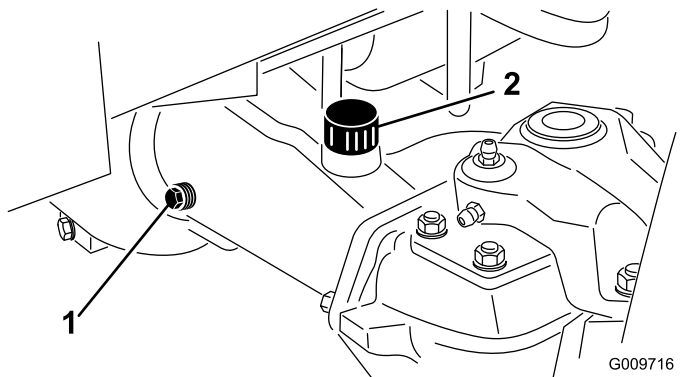

Figure 96
- Remove a check plug from 1 end of the axle (Figure 96) and make sure that the oil is up to the bottom of the hole. If the level is low, remove the fill plug (Figure 96) and add enough oil to bring the level up to the bottom of the check-plug holes.